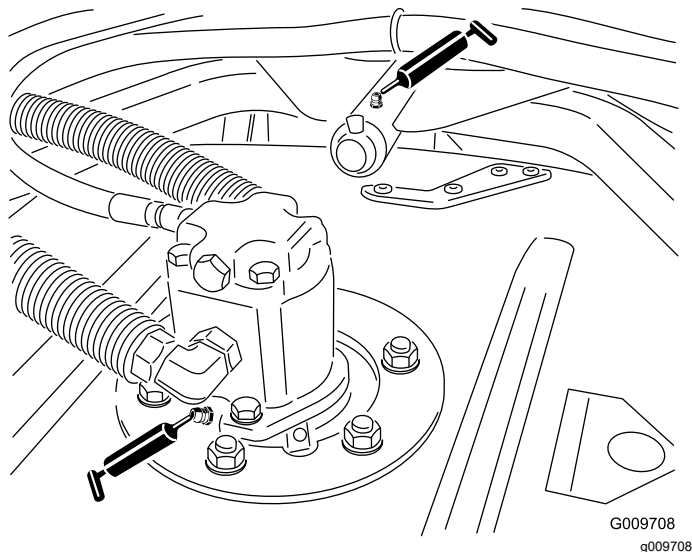

Figure 54
- Cutting-unit spindle-shaft bearings (2 per cutting unit) as shown in Figure 54
- Cutting-unit carrier-arm bushings (1 per cutting unit) as shown in Figure 54